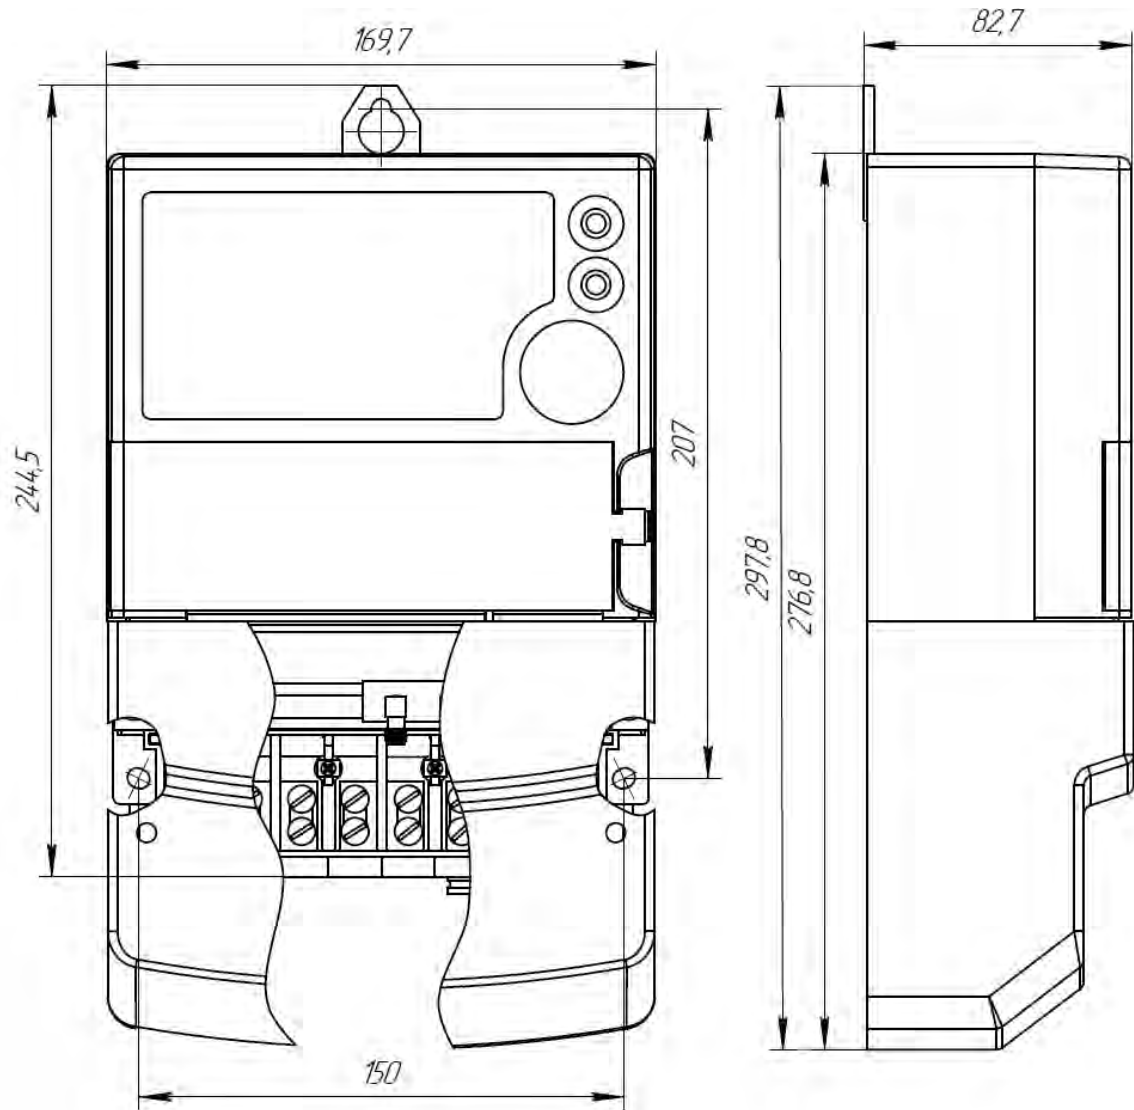

Fig 2.1 – Overall and mounting dimensions of the meter
2.21 The overall and mounting dimensions of the KWH-Marsen meter, PSU and Power Adapter are given in Fig. 2.1 – 2.6.